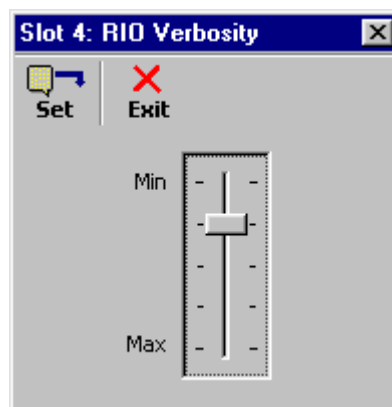

Figure 3-103
1. For the module slot to be set, select “Set Verbosity” from the module pop-up menu. A display similar to that shown in figure 3-103 appears (the example presents an RIO module in slot 4).
For a normal DT session using the CPU/CPU2 module DT serial port, or remotely using the LAN, the current verbosity setting is displayed (refer to figure 3-103). For a direct module DT session, the current verbosity setting can not be determined and the slider is always shown in the “Min” position.